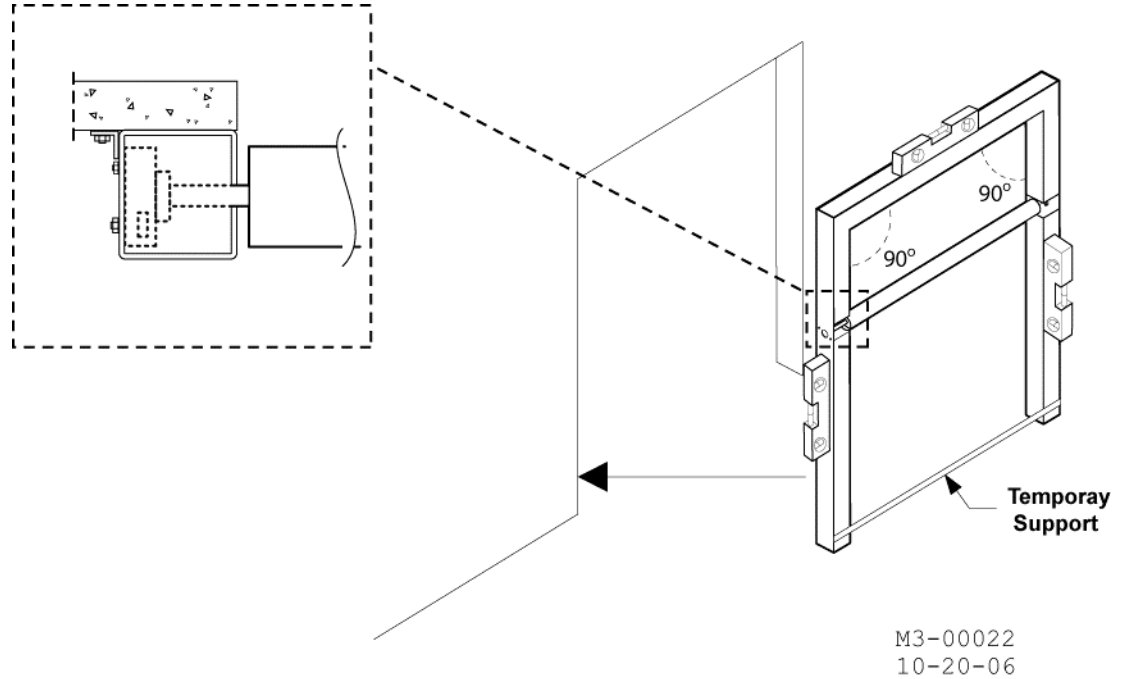

Figure 2-4: Mount Fore Frame
6. Mount the frame to the opening, shimming as necessary. The fore frame may be welded into place as appropriate, or the mounting clips may be used for non-metal surfaces as shown in Figure 2-4.